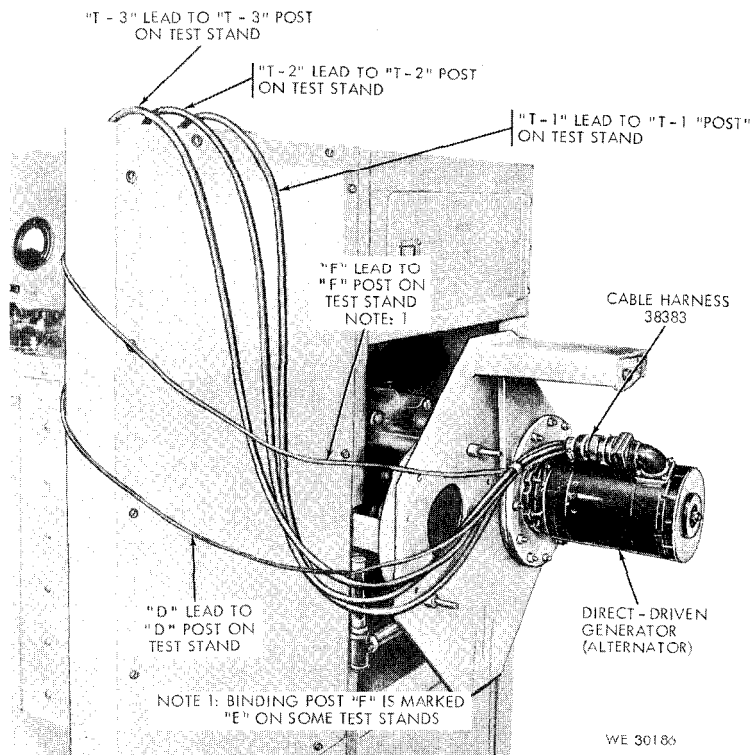

Figure 50. Leece-Neville Company no. A0015504AA ordnance no. 10922191 100-ampere direct-driven generator (alternator - installed view and hook-up to test stand.
- (2) Mount the generator (alternator) (pulley- or direct-driven) of known serviceable condition (pars. 130*d* and *e*) on the low speed driving head (5, fig. 7) (pars. 94 or 95) as shown in figures 50 and 51.
- (3) Calibrate the tachometer indicator circuitry as prescribed in paragraph 97*b* or 97*c*, as applicable for the type (pulley- or direct-driven) generator (alternator) use, (2) above.
- (4) Connect the generator (alternator) to the alternator input binding posts (12, fig. 15), as shown in figures 50 or 51, using applicable cable harnesses (fig. 73).